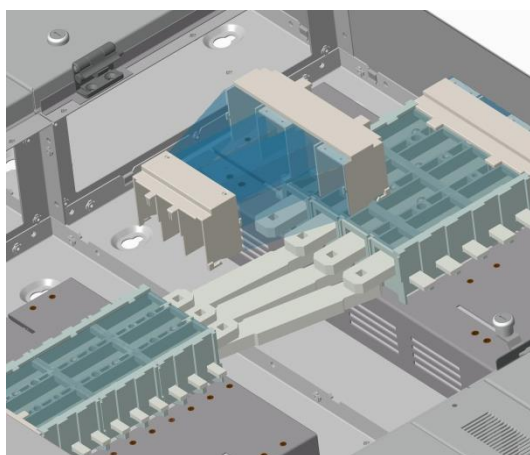

Fig. 6
- Once the busbar covers are assembled they can be fitted in one piece as shown in Fig. 6